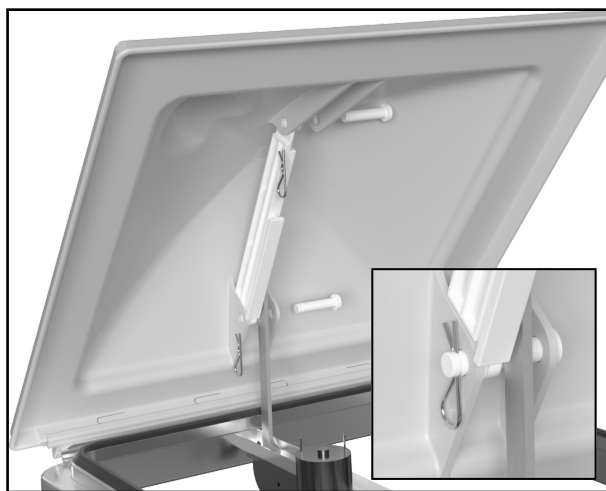

Figure 9a
- I. Allowing the lift arm to control the left/right position of the cross bar, slide a hinge pin thru the hole in one side of the cross bar mount on the inside of the lid, thru the cross bar and thru the other side of the cross bar mount. **(Figure 9a)** It doesn't matter which way the pin goes and it doesn't matter if you do the front or rear first.
- II. Secure with a hair pin. **(Figure 9a Inset).**